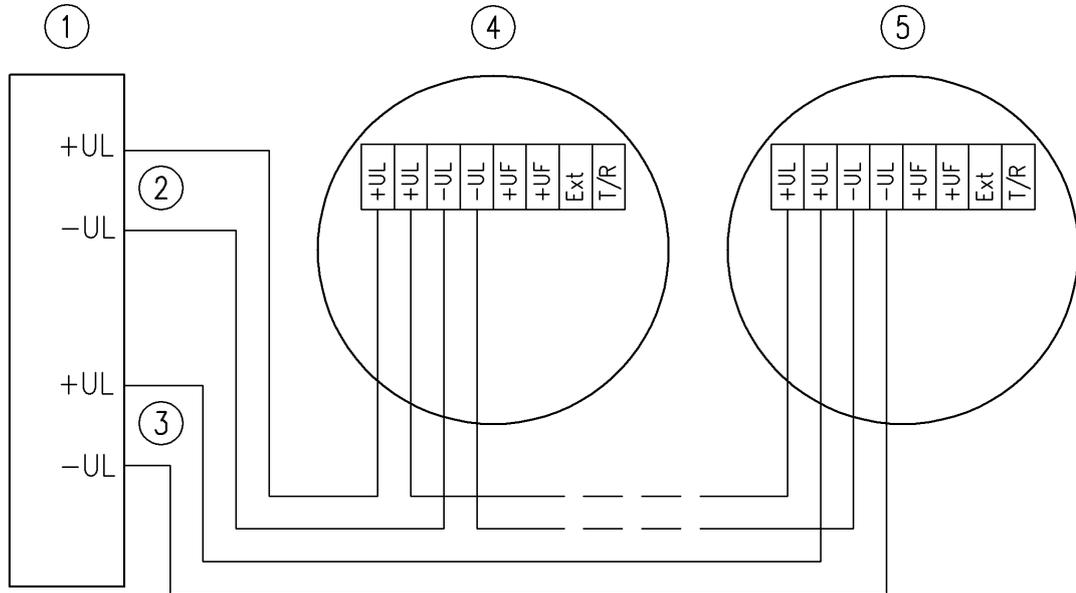

Fig. 41: Loop mode connection diagram
- When connecting (Fig. 41), note that removing a detector will cause the wire to break! In order to prevent this, alternatively the wires of the incoming loop and outgoing loop can be jointly run through one connecting terminal (with the same rigid cross-section up to 1 mm² (AWG 18), flexible up to 1.5 mm² (AWG 16)).